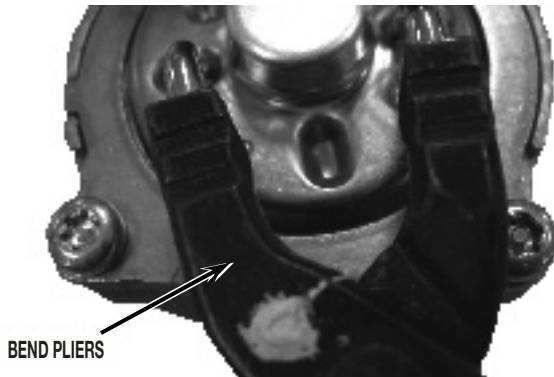

FIGURE 7
8. Position a pair of bend pliers into the slots of the cover dial. See *Figure 7*.